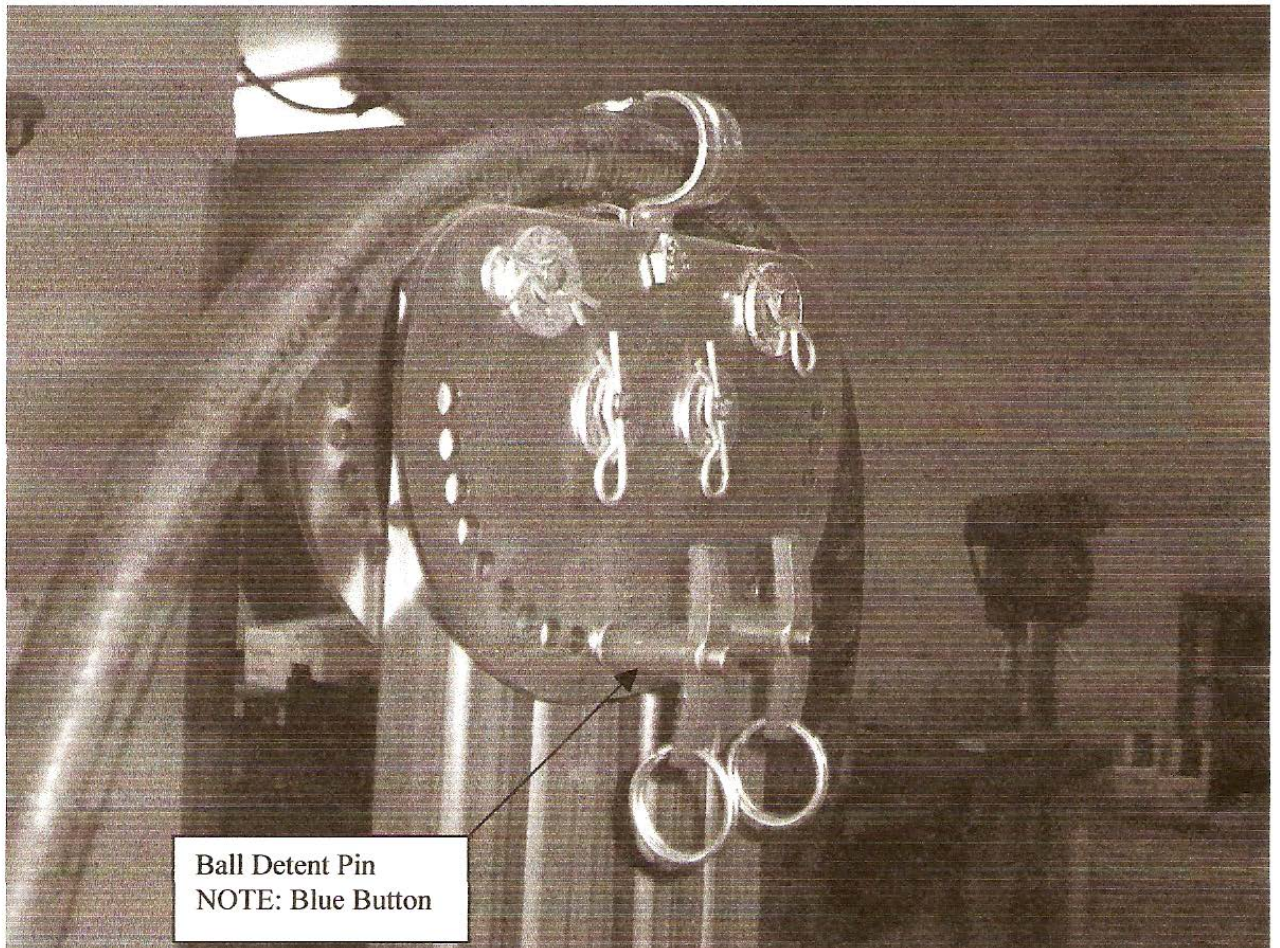

Figure 2.7 Center Plate
- 2.2.4 Remove the ball detent pin closest to the spray head from the center plate. See Figure 2.7. It is necessary to depress the blue button on the end of the pin to release the locking ball at the end of the pin.